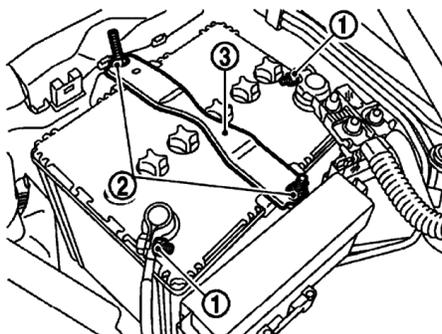

Fig. 1 Battery removal
4. Loosen battery terminal nuts (1), and disconnect both battery cables from battery terminals. When disconnecting, disconnect battery ground cable from terminal first, **Fig. 1**.
5. Remove battery fix frame mounting nuts (2) and battery fix frame (3), **Fig. 1**.